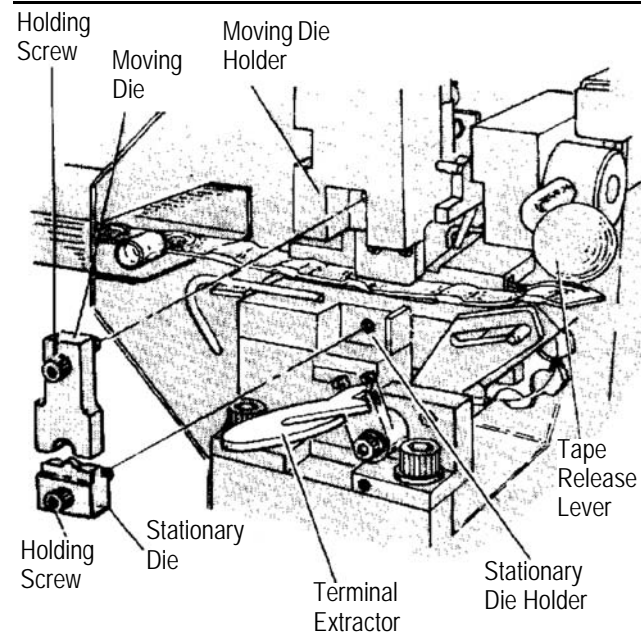

Figure 2
3. Remove front applicator guard, then depress terminal extractor, (see Figure 2), and pivot it away from crimping die holder.
4. With tape release lever "up", insert moving (upper) die into die holder and tighten holding screw. See Figure 2.
5. Insert stationary (lower) die into die holder and tighten holding screw. See Figure 2.